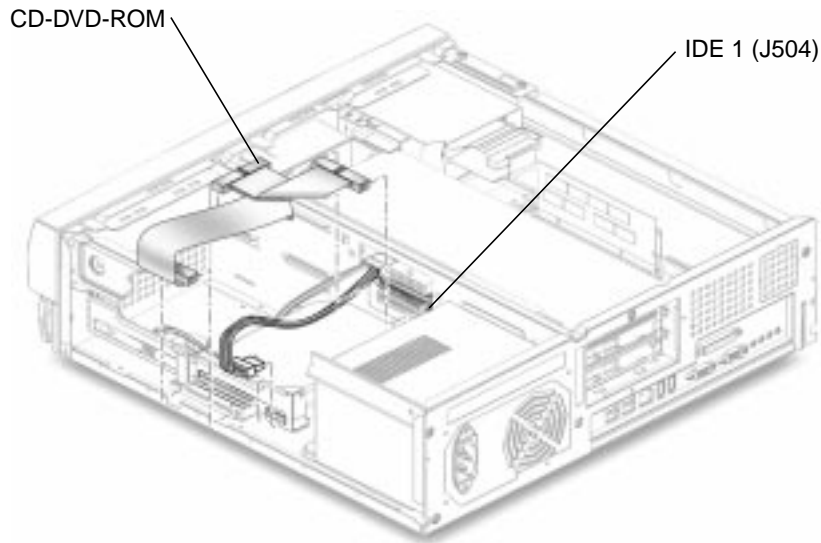

FIGURE 6-4 Removing and Replacing the Primary IDE Cable Assembly
2. **Disconnect the primary IDE cable assembly connectors from the following** (FIGURE 6-4):
1. Position the primary IDE cable assembly into the chassis (FIGURE 6-4).